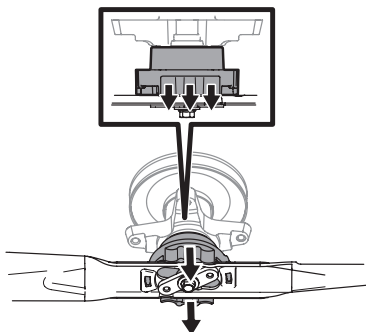

Figure 50
6. There will be an audible click when the blade is properly locked in place (Figure 50).